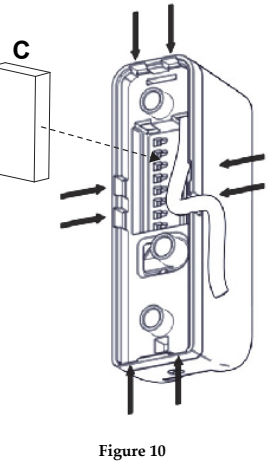

Figure 10
Step 5c: Available Wiring Channels (see Figure 10)